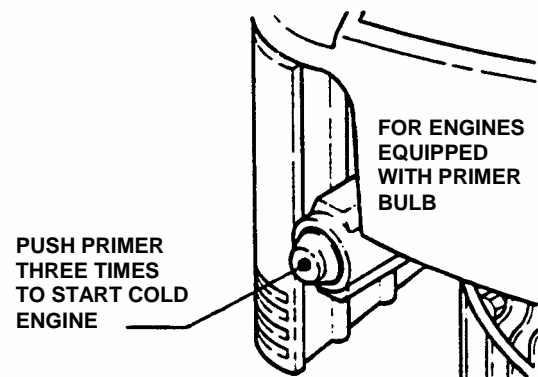

FIGURE 2.3
2. Push primer button three times to start a cold engine. **NOTE:** Do not use primer button to start warm engine. See Figure 2.3.